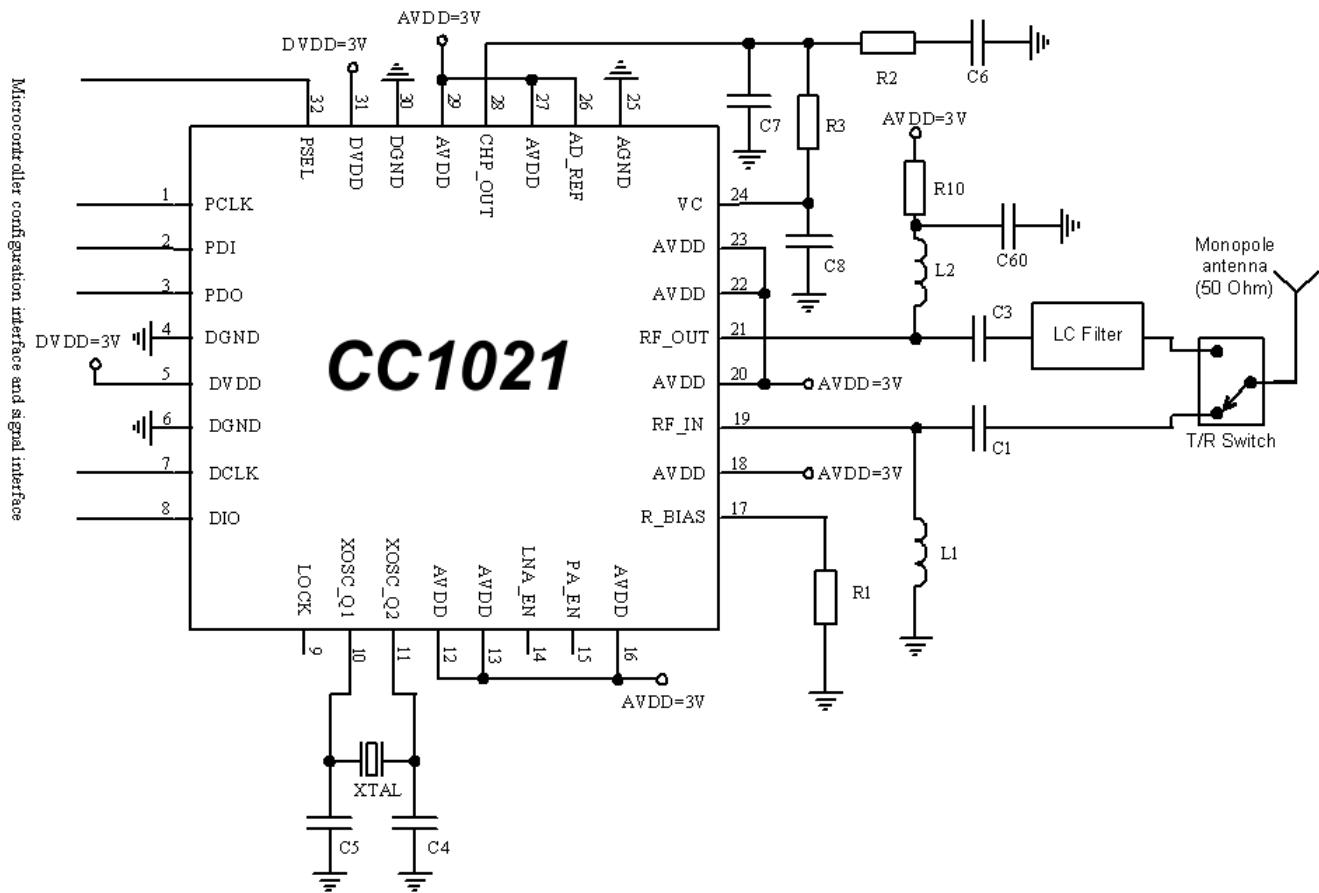
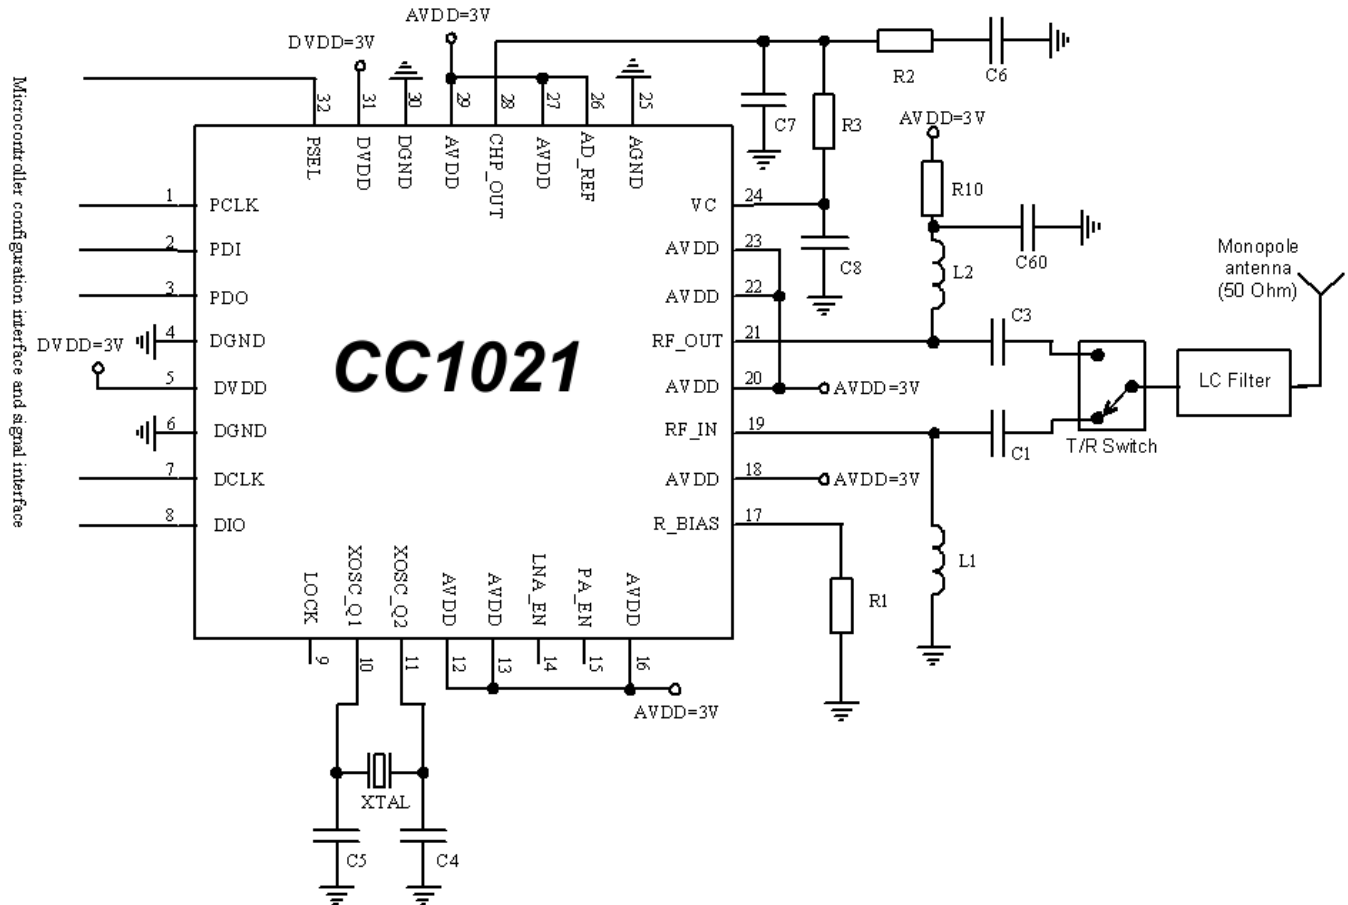

Figure 6-1. Typical Application and Test Circuit (Power Supply Decoupling Not Shown)
Figure 6-2. Alternative Application Circuit (Power Supply Decoupling Not Shown)
Very few external components are required for the operation of the CC1021 device. The recommended application circuit is shown in Figure 6-1. The external components are described in Table 6-1 and values are given in Table 6-2.
**Table 6-2. Bill of Materials for the Application Circuit in Figure 6-1** (1)(2)
The LC filter in Figure 6-1 is inserted in the TX path only. The filter will reduce the emission of harmonics and the spurious emissions in the TX path. An alternative is to insert the LC filter between the antenna and the T/R switch as shown in Figure 6-2.